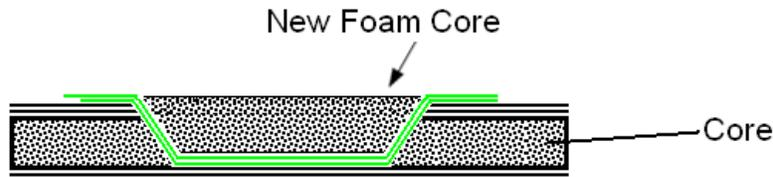

Figure 51-7 Inserting a New Piece of Foam Core
3. Create a chamfered 3mm or 5mm Airex foam core piece such that it matches the sanded/prepped region and locate it in the repair section as shown in Figure 51-7.